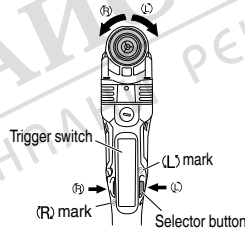

Fig. 8
The bit rotates clockwise (viewed from the rear side) by pushing the R-side of the selector button. The L-side of the selector button is pushed to turn the bit counterclockwise (See Fig. 8). (The (L) and (R) marks are provided on the body.)